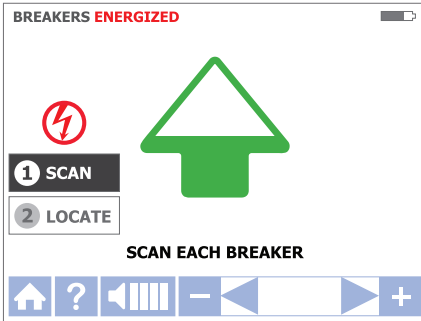

Figure 3.4b
- a. The unit will automatically start in ① **SCAN** mode as shown in Figure 3.4b.